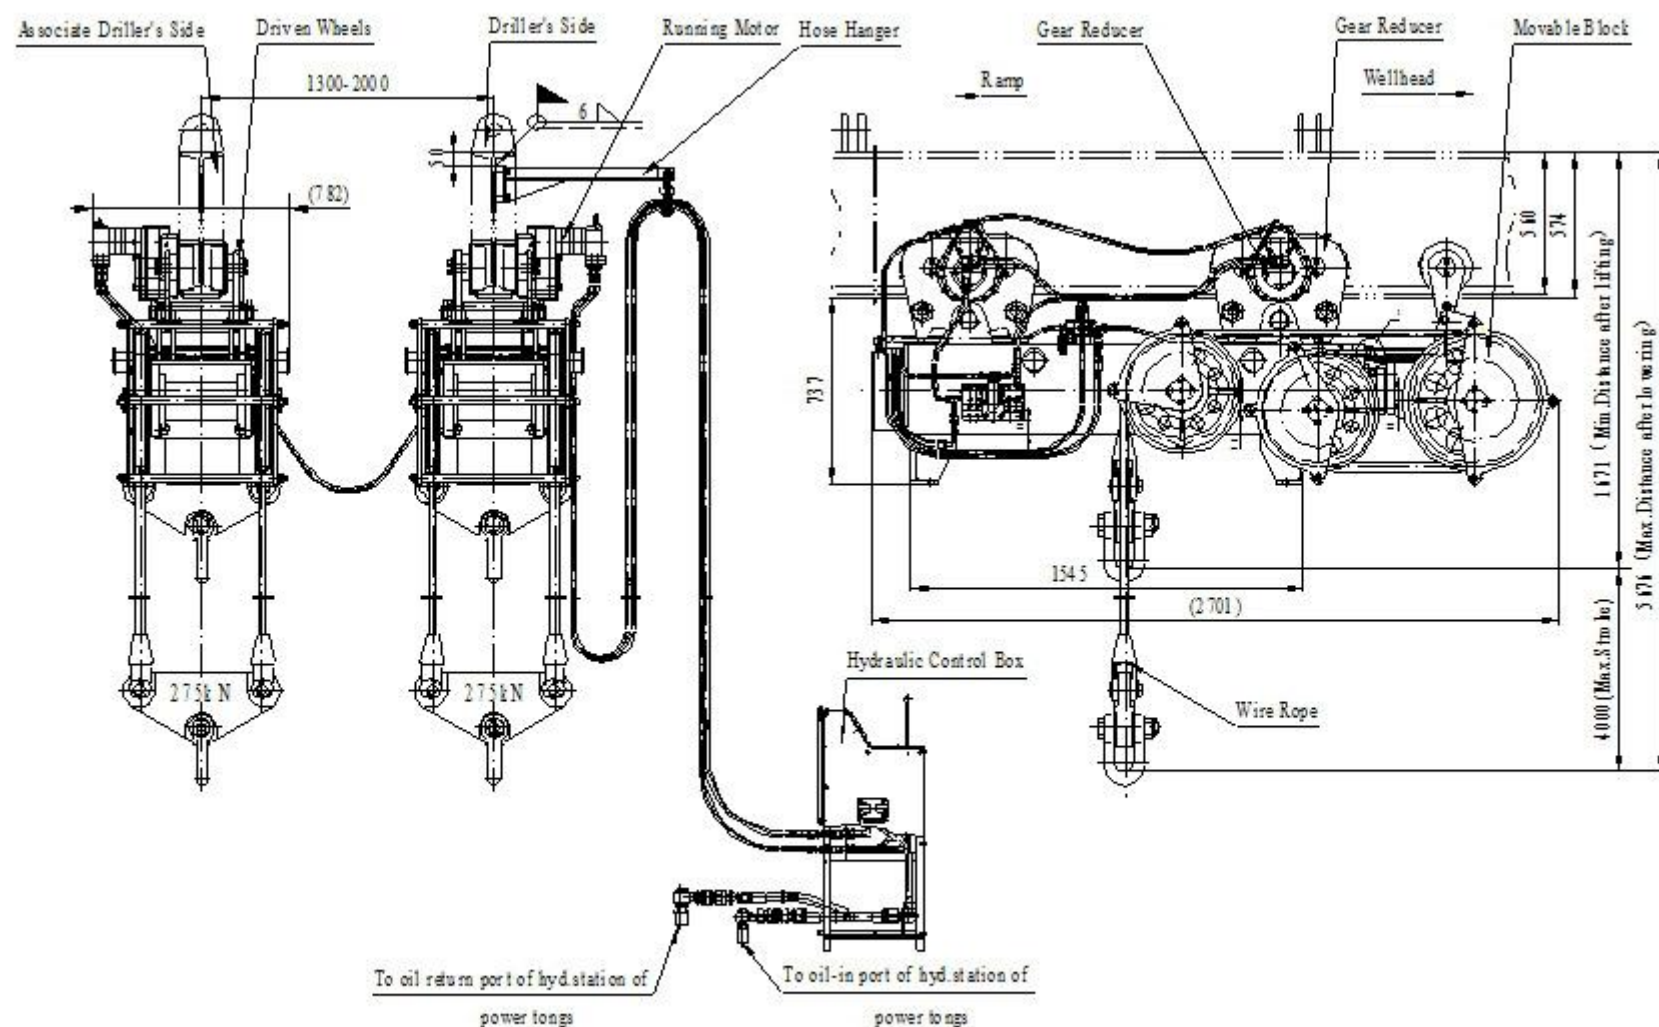

Fig. 2: Structure of DZ500-4 BOP Handling System
1. Infix two lifting devices separately from the ends of guide rails below the drilling floor (see Figure 2 for installing direction), and mount stop pins on the end of the guide rails to prevent lifting devices from sliding out of the guide rails.
2. Weld backing plate of pipe hanger matched with wed plates on the middle of guide rails and mount pipe hanger (see Figure 2).
2. Fig.2: Structure of DZ500-4 BOP Handling System